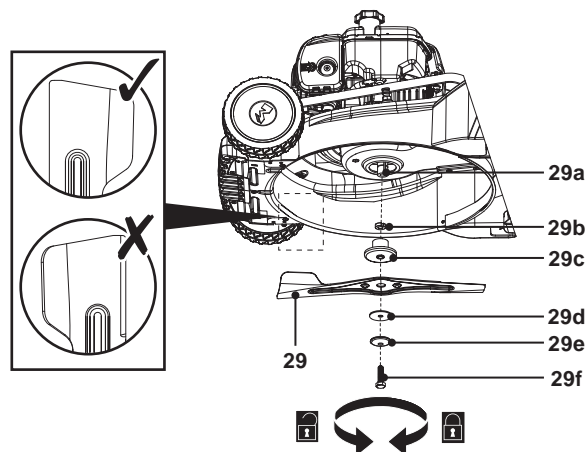

Fig. 25
**NOTE:** We strongly recommend jacking the product when performing inspection and work on the cutting device (29). Avoid tilting the product in order to prevent fuel and oil leakages.
1. Keep the underbody and cutting device (29) clean and free of debris. Remove clippings from the rear discharge chute (30).
2. Check all nuts and bolts periodically for tightness before operation. After prolonged use, especially in sandy soil conditions, the cutting device (29) will become worn and lose some of the original shape. The cutting efficiency will be reduced and the cutting device should be replaced.
3. Keep the cutting device (29) sharp to ensure a good cutting performance. Replace a worn or damaged cutting device with a new one of the same type or have it sharpened by a qualified specialist.
4. If jacking the product is not possible, tilt it to the right side so that the fuel tank cap (12) side is up. This helps to prevent fuel leakage and harder starting due to flooding of the carburetor (17).
5. Loosen the hex bolt (29f) anticlockwise using a suitable wrench (Size 17mm) and remove it together with the cup washer (29e), the locking flange (29d), the cutting device (29), the blade holder (29c) from the spindle (29a) (Fig. 25).
7. Replace the cutting device (29) with a new one of the same type. Check the status of the flange onto the blade holder (29c), attach the cutting device (29) properly, then attach the locking flange (29d) and ensure the two pins located into the groove of the flange of the blade holder (29c), fix the assembly with the cup washer (29e) and hex bolt (29f). Tighten the hex bolt (29f) clockwise with 40-45 Nm to ensure safe operation of your product (Fig. 25).
**WARNING!** Before fitting the cutting device (29), making sure that the blade's wings are facing toward the interior of the blade deck.